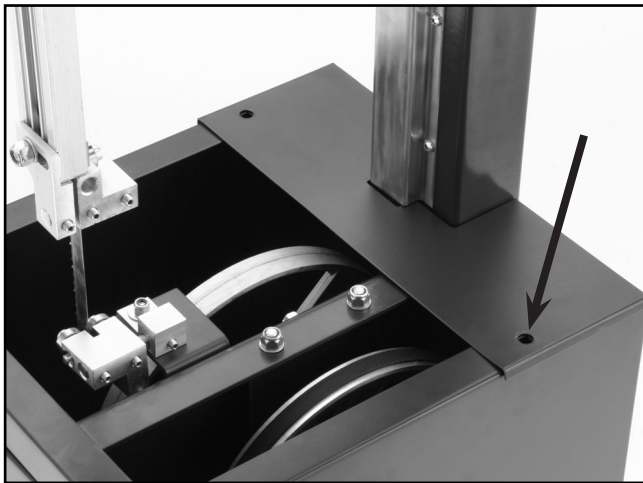

Figure 11. Cover plate in the correct position with holes aligned.
1. Place the cover plate on the saw unit as shown in **Figure 11**.